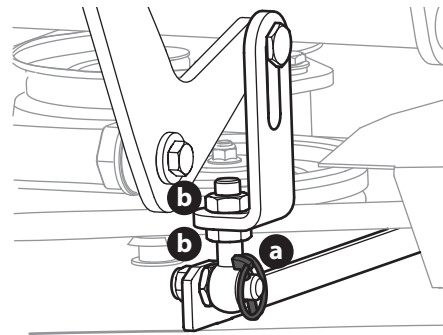

Figure 46
3. Adjust the eyebolt (a) at the left front of the deck so that the blade-to-ground height at the right outside blade tip matches that of the left outside blade tip. This is done by loosening the jam nuts (b) on the eyebolt (a) and tightening the upper jam nut (b) to raise the deck and loosening the jam nut (b) to lower the deck. The right outer blade tip height is fixed by the right, front eyebolt (a) so you must adjust the left outer tip to match it (Figure 46).
4. Once the proper adjustment is made, re-tighten the jam nuts (b) (Figure 46).
- Loosen the jam nuts (b) at the rear left and right of the deck eyebolts (a) (Figure 46 on page 29).
- Start at the rear right to raise the rear of the deck, tighten the upper jam nut (b) to raise the deck or loosen the upper jam nut (b) to lower the rear of the deck (Figure 46 on page 29).
- Adjust the jam nut (b) at the rear left to take the “slack” out of the threaded rod (Figure 46 on page 29).
- Tighten both lower jam nuts (b) to secure the deck adjustment (Figure 46 on page 29).
- The final adjustment would be to take the “slack” out of the left rear linkage if the rear of the deck was raised by adjusting the jam nuts (b) on the eyebolt (a). Loosen the jam nuts (b) and tighten the upper jam nut (b) to remove “slack” (Figure 46 on page 29).
- In many cases it will be necessary to adjust deck height using both eyebolt (a) adjustments and pitch adjustment to achieve the correct blade-to-ground heights. If you remember that the front right blade tip adjustment is fixed and you level to that height, adjusting the deck will be simplified (Figure 46 on page 29).